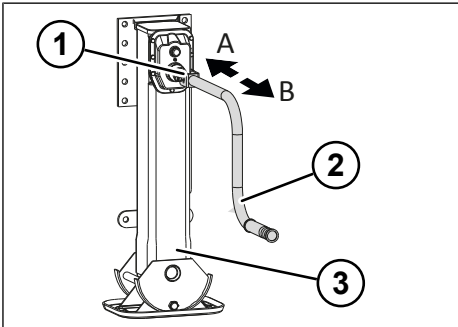

Fig. 5-3: Load speed and rapid speed of the landing leg winch
- ▶ Switch on rapid speed by pulling out the hand crank (see "Fig. 5-3: Load speed and rapid speed of the landing leg winch", pg. 27).
- ▶ Switch on load speed by pushing in the hand crank (see "Fig. 5-3: Load speed and rapid speed of the landing leg winch", pg. 27).
- ▶ Set to load speed by pushing in the hand crank (see "Fig. 5-3: Load speed and rapid speed of the landing leg winch", pg. 27).
- ▶ Set to high speed by pulling out the hand crank (see "Fig. 5-3: Load speed and rapid speed of the landing leg winch", pg. 27).